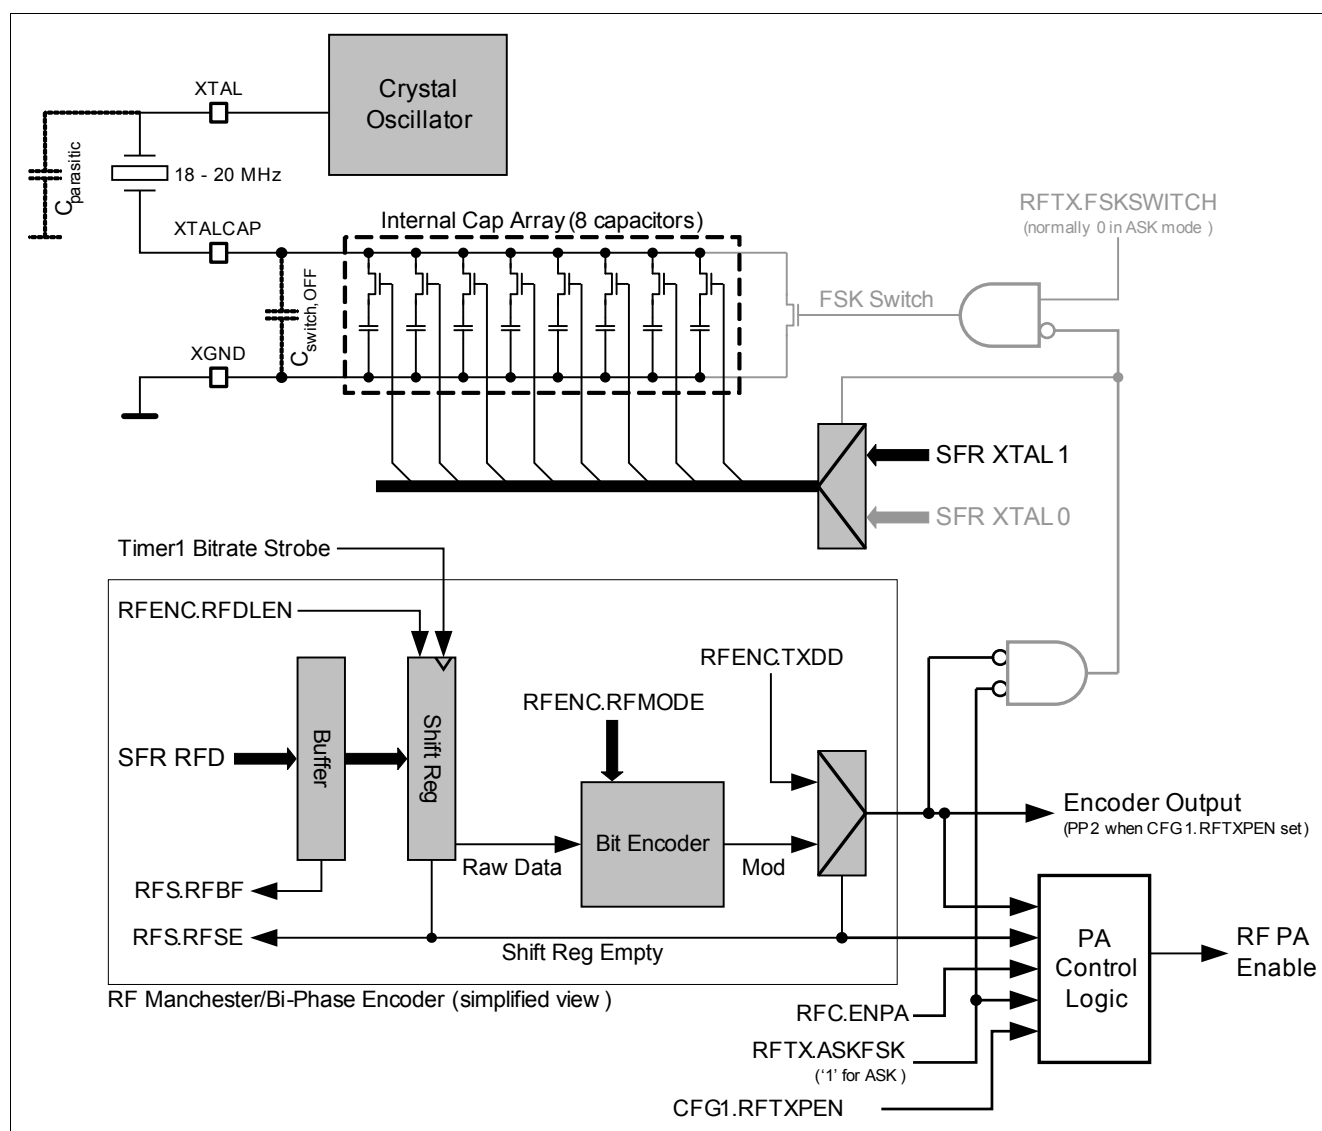

Figure 12 ASK using the internal capacitor
- In the configuration shown in Figure 12 the internal capacitor array is used. The desired capacitor value must be selected by using SFR XTAL1 to establish the RF carrier frequency. The exact value used should be verified by module level testing.